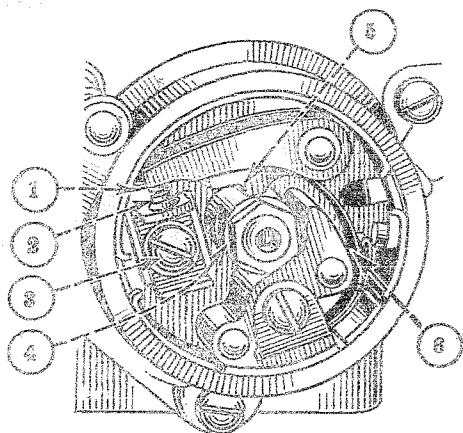

Figure 79D. Breaker Mechanism
(2) Insert the gauge between breaker points (1) and (2), Fig. 79D. If the points are too wide, or too close, loosen the screw (3) slightly. Adjust so a gauge will slip snugly into the opening. Tighten screw (3) and recheck the opening. Use a screwdriver as a pry to move the point support.